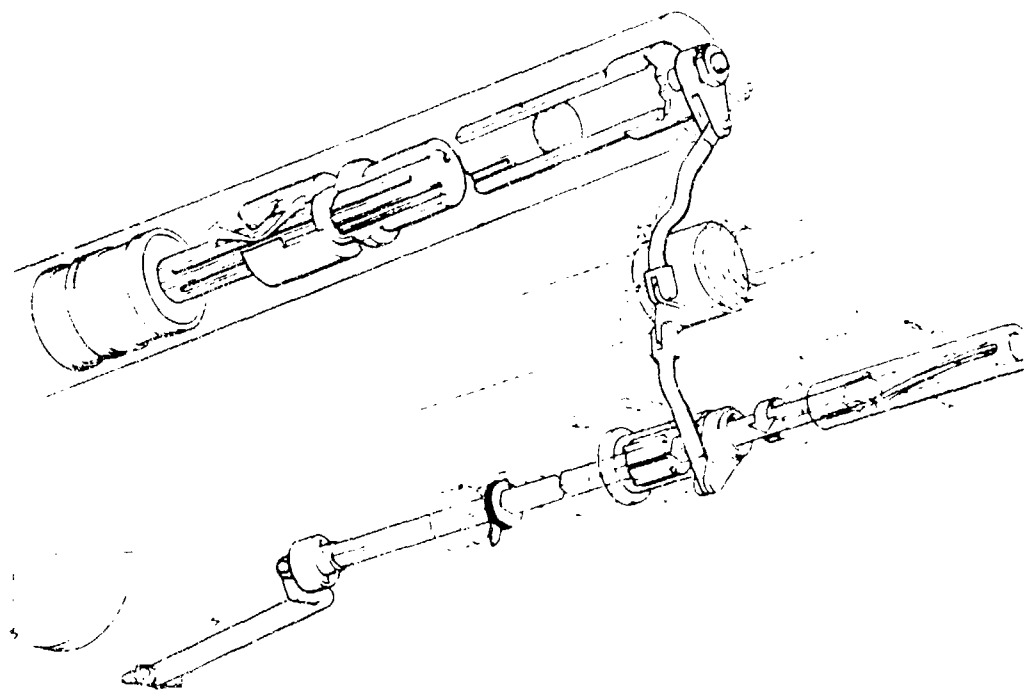

Figure 6-17. Variable recoil mechanism interface of internal components.
*c. Variable recoil system.* The variable recoil system (fig 6-17) is composed of two recoil systems and associated mechanical controls. Each cylinder contains a piston assembly, an inner orifice and an outer orifice. Each piston assembly consists of a piston, a piston tube, and a piston plug.